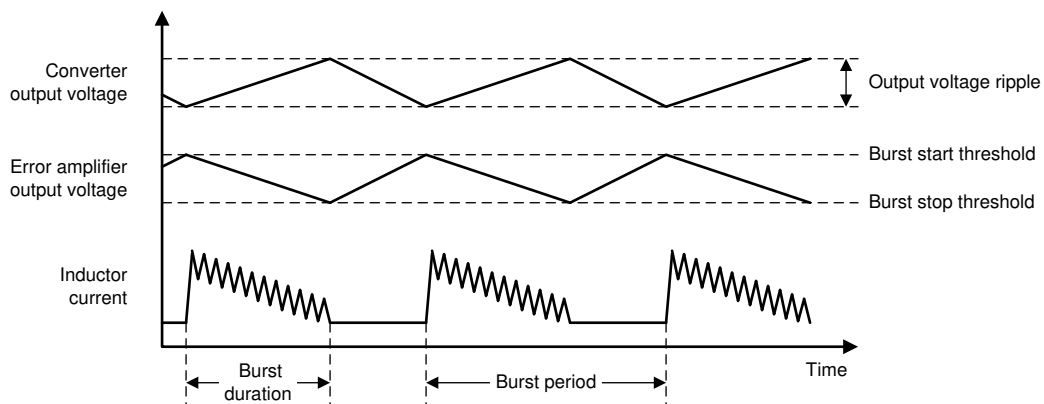

图 13. Pulse-Frequency Modulation
- During PFM operation, the device switches in bursts of a few switching cycles, separated by periods when the device does not switch (see 图 13). PFM operation increases efficiency at low output currents because when the device does not switch, there are no switching losses and most of the internal circuitry is disabled, which reduces quiescent power consumption. A comparator with hysteresis compares the output voltage of the error amplifier to a predefined PFM threshold voltage. When the output voltage of the error amplifier is greater than the burst threshold voltage, the device starts switching. When the output voltage of the error amplifier is less than the burst threshold voltage, the device stops switching. This scheme automatically adjusts the frequency and the duration of the switching bursts to regulate the output voltage. During PFM operation, the output voltage ripple can be higher and the transient response is not as good as during PWM operation (see 表 1).